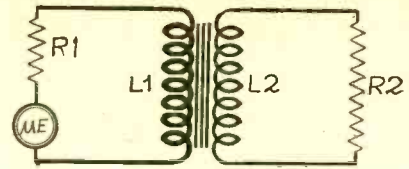

FIG. 757
(2)—In Fig. 757 R1 is the resistance in primary and R2 that in secondary. Maximum power output obtains when $L2R1 = L1R2$.